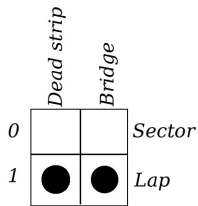

Figure 35: not allowed setting
In figure 35 the last possible switch combination for sensor setting is shown. This combination would tell the *Track Interface* to consider both DS bridge and dead strip as lap counter sensors, but this is impossible. The *Track Interface* signals this wrong combination by making LED (3) and (4) flash until the user changes the setting. Moreover, during this situation the *Track Interface* does not carry out any function.